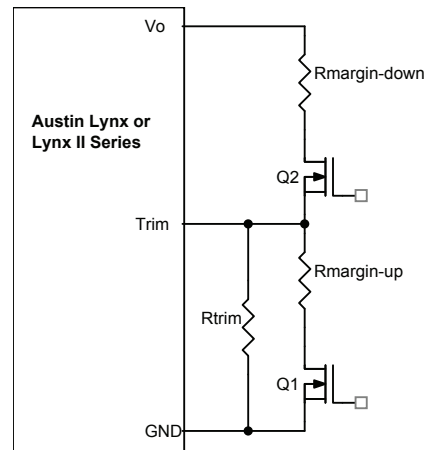

Figure 32. Circuit Configuration for margining Output voltage.
*down*, from the Trim pin to the Output pin for margining-down. Figure 32 shows the circuit configuration for output voltage margining. The POL Programming Tool, available at [www.lineagepower.com](http://www.lineagepower.com) under the Design Tools section, also calculates the values of *Rmargin-up* and *Rmargin-down* for a specific output voltage and % margin. Please consult your local Lineage Power technical representative for additional details.